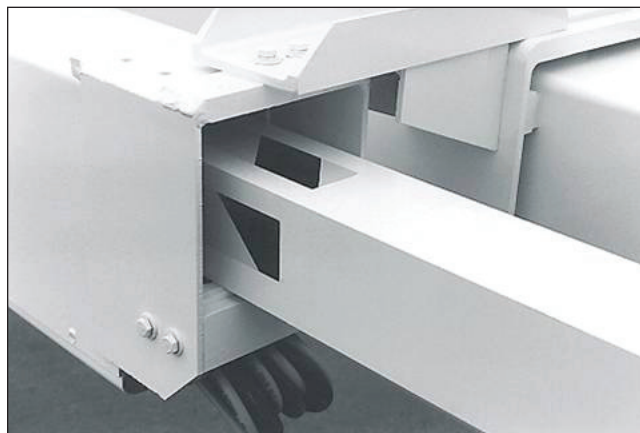

Figure 7.15 – Hose Carrier and Main Boom
Remove the pin (refer to Figure 7.15) and verify that the jack will not lower to raise the rear axles with the pin out. Lock the pin in position in the bottom hole.
2. From the lower controls, fully extend the boom horizontally. Ensure that no more than 5 to 8 cm (2-3") of black and yellow striped tape is showing at the end of the hose carrier. (Refer to Figure 7.15) If more or less tape is showing, remove the machine from service and contact an UpRight authorized service provider.